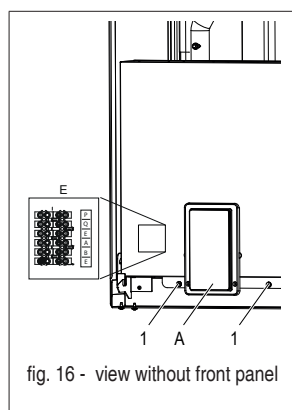

fig. 16 - view without front panel
- loosen the two screws (detail 1 - fig. 16) under the electric box
A Display panel and keyboard (fig. 16)
The terminal block (detail B fig. 16) is located on the left side of the boiler electric box. The terminal block is a male-female connector strip. There is an identification label of the 6 terminals available on the side of the terminal block.